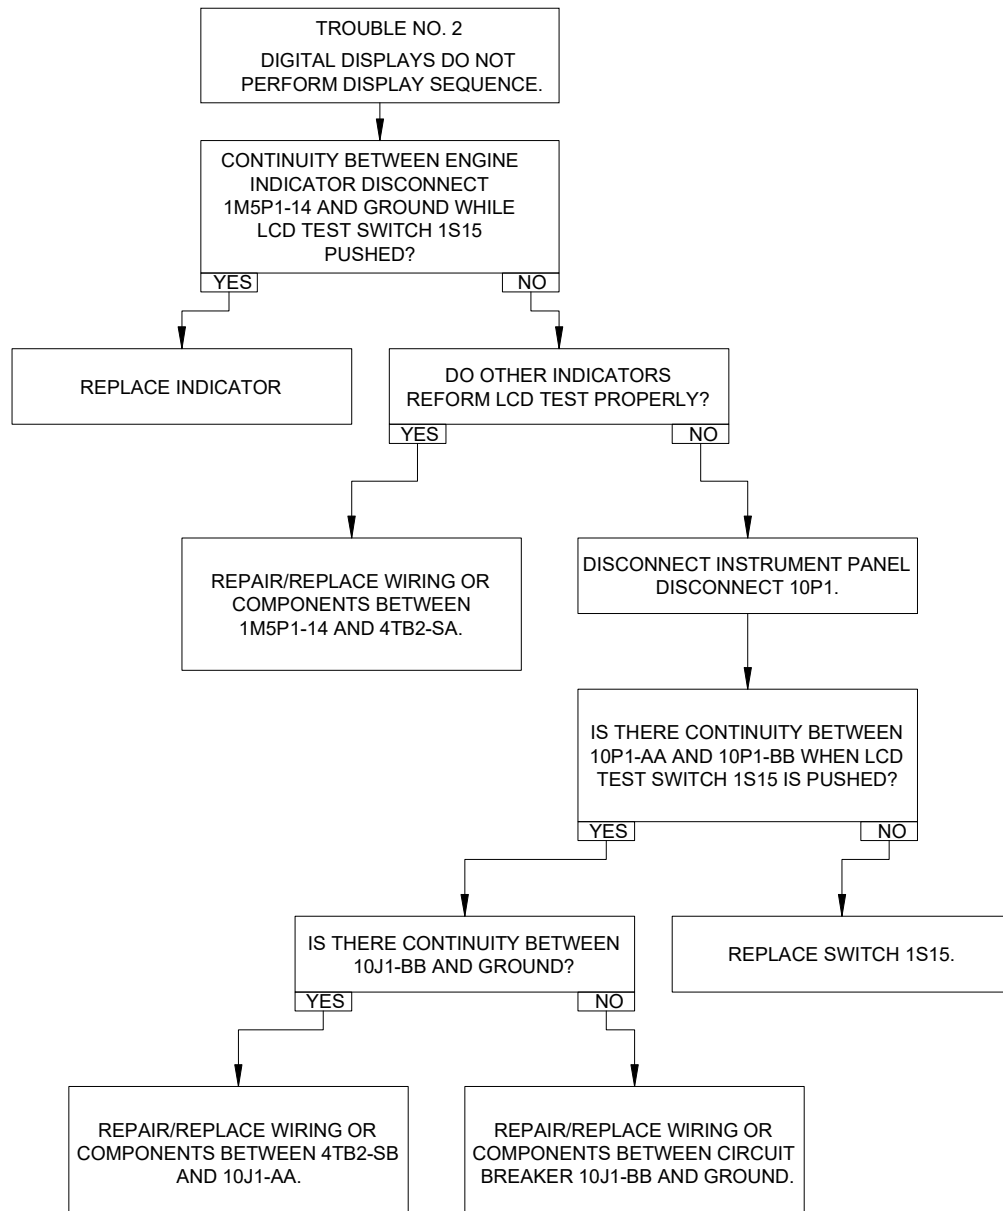

Figure 95-16: NG Indication System - Trouble No. 2
- If the digital displays do not perform the display sequence, refer to Trouble No. 2 (Figure 95-16).